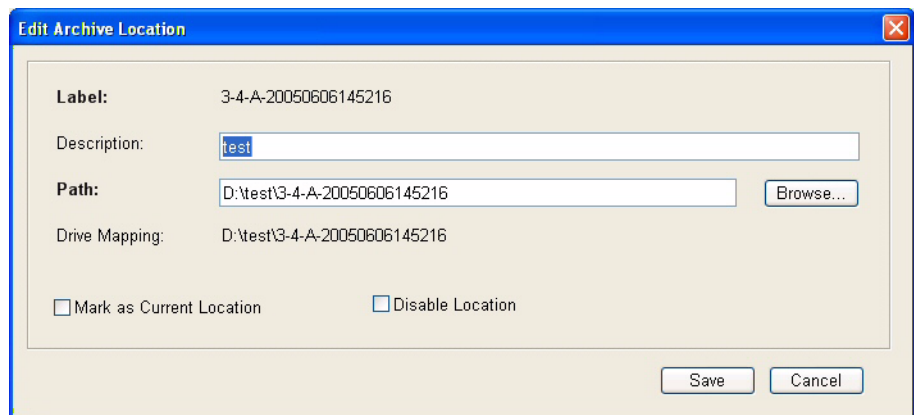

Figure 10-23 Edit Archive Location Dialog
1. In the Archive Locations dialog, select the desired archive and click **Edit**. The Edit Archive Location dialog appears, as in Figure 10-23.